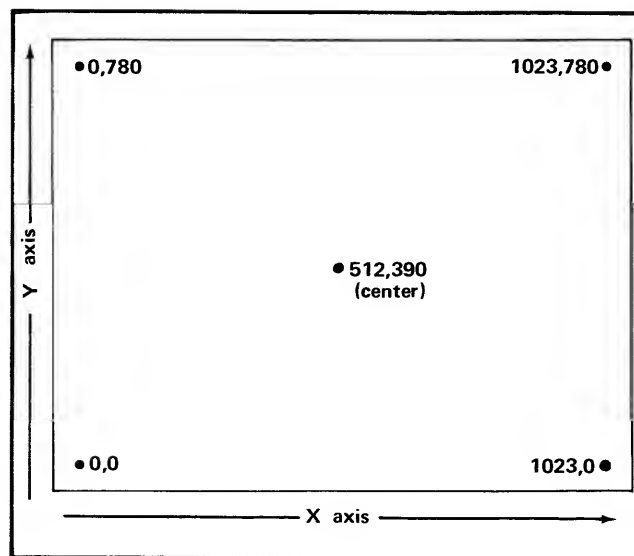

Fig. 3-1. X and Y addressable points for the corners and the center point of the display.
In the Graphic Plot mode, the 4010 uses 1024 addressable points in each axis. 780 of these points are visible in the vertical (Y) axis. Figure 3-1 shows the addressable points for the corners of the display and the center of the display. An ASCII GS character gets the 4010 into the Graphic Plot mode. Vectors are drawn from the old address to the addressed point with the exception of the first vector after entering the Graphic Plot mode. This first vector is always dark (unwritten). Additional dark vectors can be drawn at any time by preceeding the address with GS.